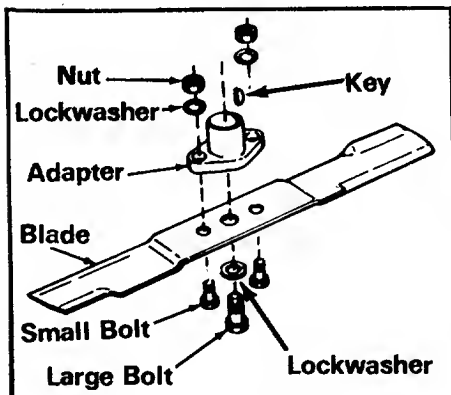

Figure 16
- 1 Remove the large bolt and lock-washer holding the blade and adapter to the engine blade spindle. (See figure 16.)
- 2 Remove the Belt Keeper and Shoulder Bolt on the engine pulley. (See figure 16.)